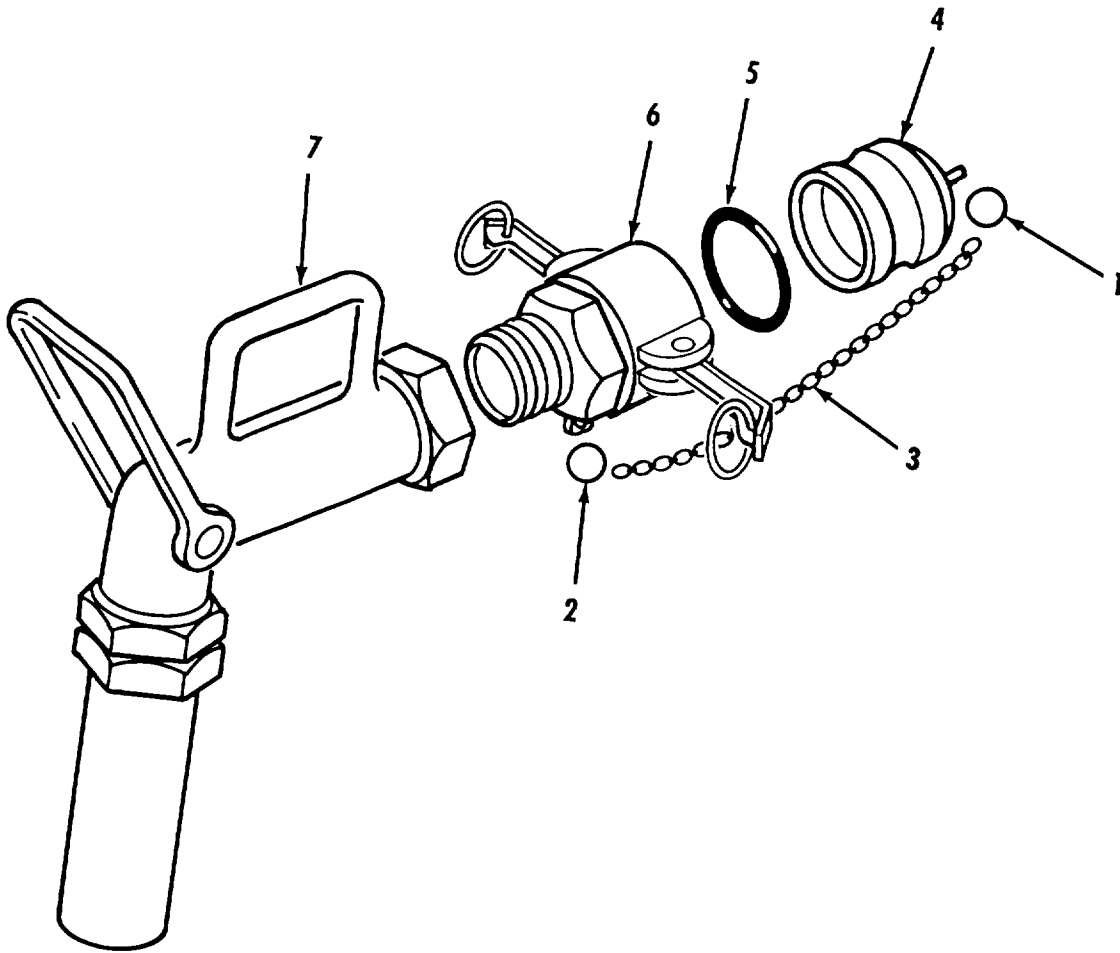

Figure 4-1. Arctic Fuel and Oil Servicing Nozzle Disassembly.
- a. Disassembly. Refer to figure 4-1.
- (1) Disconnect split rings (1 and 2) and remove chain (3).
- (2) Remove dust plug (4) from female coupling half (6).
- (3) Remove gasket (5) from female coupling half (6).
- (4) Remove female coupling half(6) from nozzle (7).
d. Assembly. Refer to figure 4-1.
- (1) Apply thread sealant to male threads on female coupling half (6).
- (2) Install female coupling half (6) on nozzle (7).